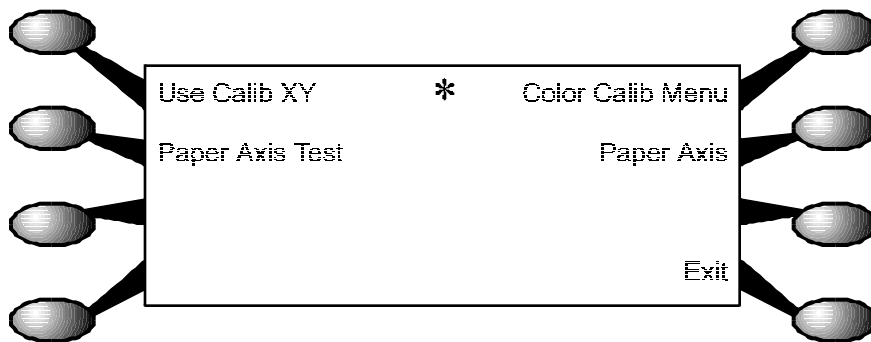

Figure 3-25. Calibration Menu.
2. From the Utility Menu, select “Calibration Menu”. This brings up the Calibration Menu as shown in Figure 3-25.